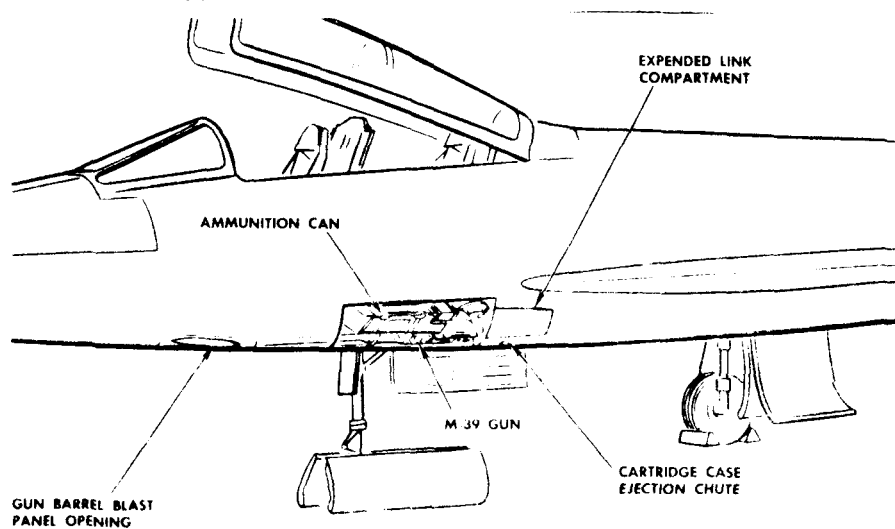

Figure 9-27. Gunnery System F-100F Aircraft
b. Guns. The gunnery system of the F-100D consists of four M39 20-mm guns and the F-100F of two M39 20-mm guns. The guns are located in the bottom forward section of the fuselage outboard of the nose wheel in gun bays. The F-100D has two guns on each side while the F-100F has one gun on each side. (see figures 9-27 and 9-28)
(2) The ammunition system for the F-100F consists of 164 rounds in each of two ammo cans located one on each side above the guns under the same panel. (see figure 9-27)
(3) All models of the F-100 use 20-mm electric-primed ammunition with "bore-safe" fuzing.